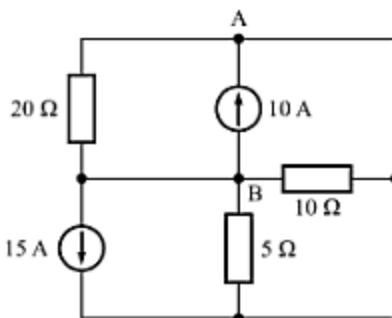

Fig. A-98
- A-62.** In the circuit of Fig. A-98, find the current through 10Ω resistor.